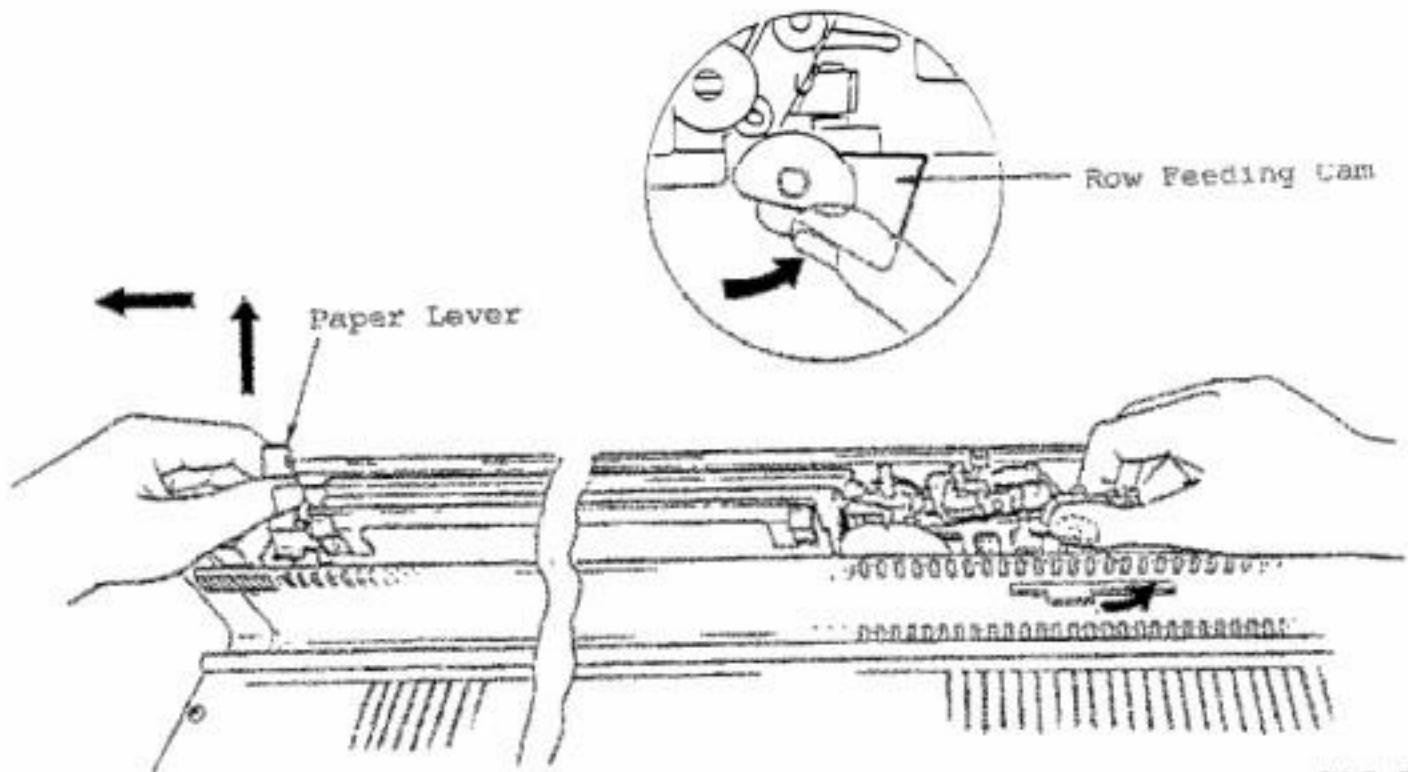

FIG.33
3. Press and hold Row Feeding Cam against the KR Unit as shown in Figure 33. Lift the left end of KR Unit by picking up the Paper Lever, then slide the unit to the left until approx. its half-section comes out of the Machine Body.